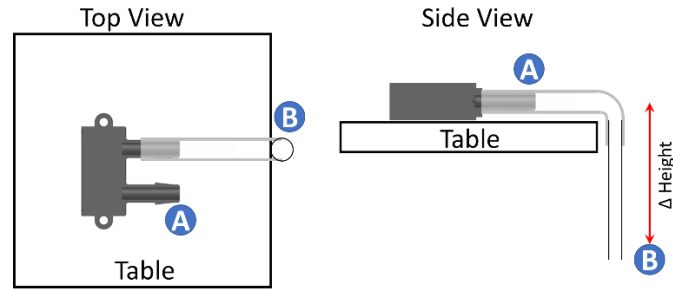

Figure 4: Setup for measurement of height difference
6. In the lecture we have learned that the atmospheric pressure increases by 12 Pa/m. The goal of the next measurement is to measure the pressure difference of air between point A and point B as shown in figure 4. Thus connect the metallic tube to the open silicone tube. Conduct a measurement and evaluate the findings. Analyze your results in the report using the method that have been taught in the class.